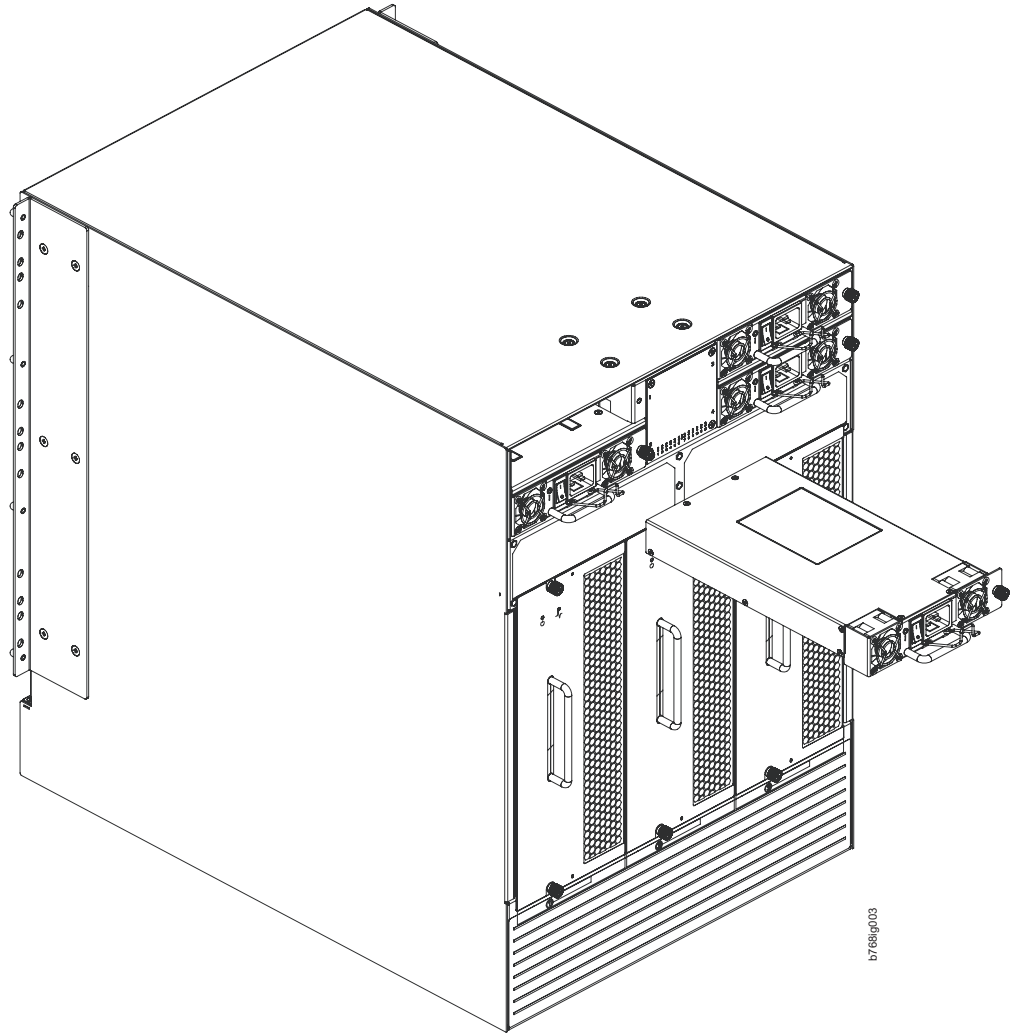

Figure 38. Removing and installing a power supply
5. Grasp the handle and pull, sliding the power supply from the chassis, supporting the power supply from beneath as you remove it. (see Figure 38).